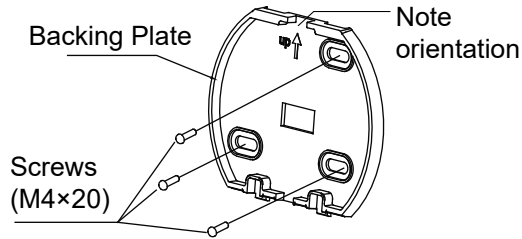

Figure 9.
- For exposed mounting, fasten the Backing Plate with the screws and plugs supplied if required. Refer to Figure 9.